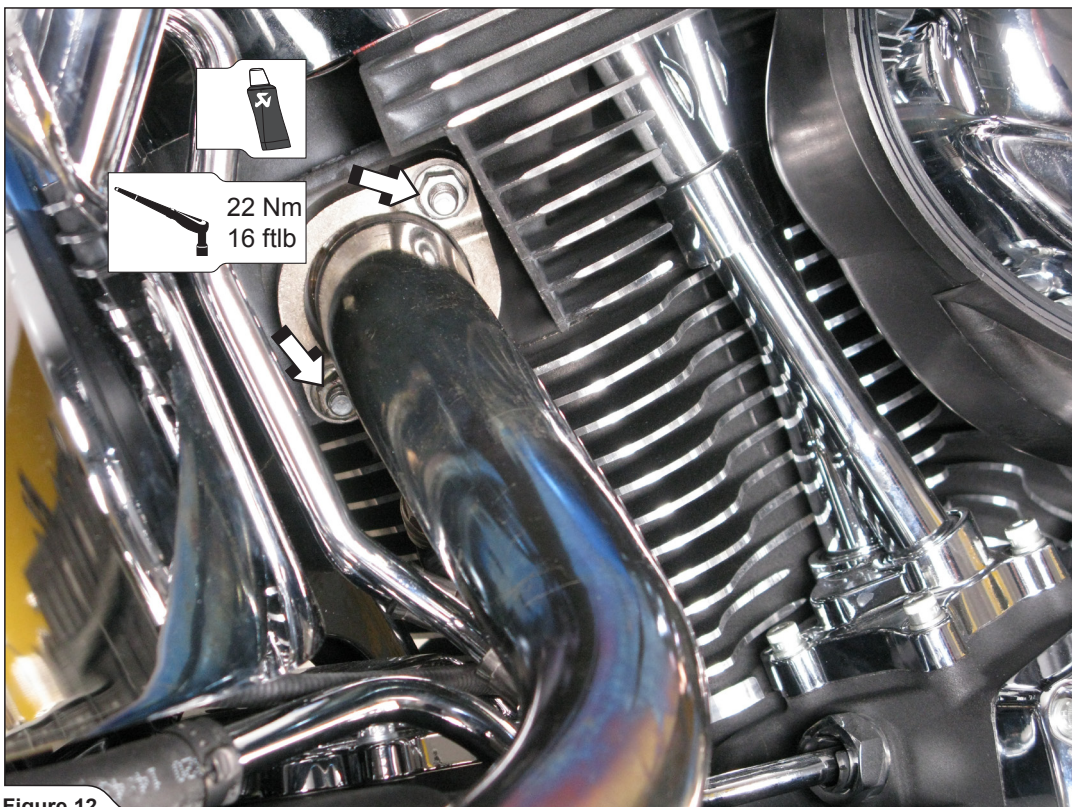

Figure 12
- Tighten the headers' flanges on both header pipes to the specified torques (Figure 12, 13).